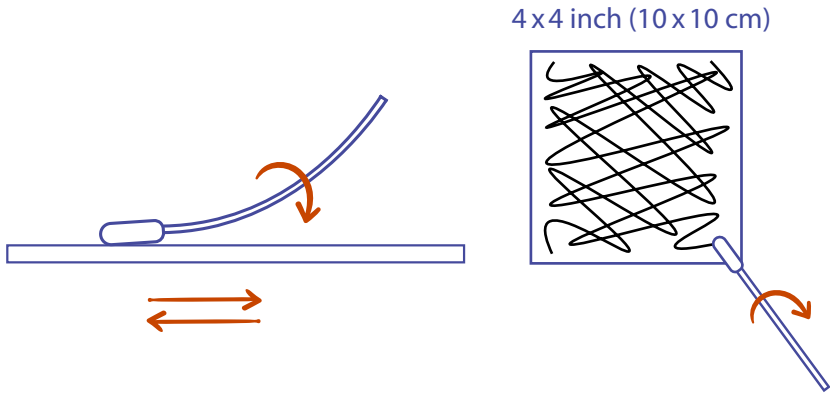

Figure 4. Environmental Surface Sampling
8.1.3. Collect a surface sample by swabbing a 4x4 inch (or 10x10 cm) area using a rolling crosshatch technique shown in **Figure 4**. Ensure that all sides of the swab bulb come into contact with the surface.